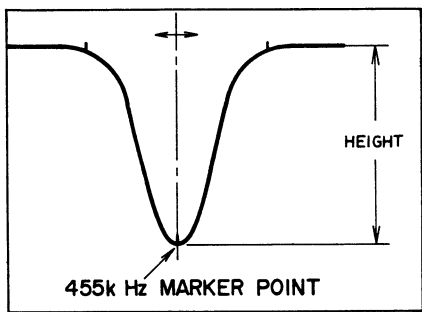

Fig. 13
NOTE: A Noise Element should not enter the single peaked curve shown in Fig. 13.
- 5) Adjust the core of FM-AM IF & MPX P.C. Board IFT T6(BLK) (Refer to Fig. 5) so that the 455 kHz marker point of the single peaked curve displays maximum amplitude as shown in Fig. 13.
- 6) Adjust the cores of FM-AM IF & MPX P.C. Board IFT T5(WHT), T4(YLW) (refer to Fig. 5) so that the left and right rise up characteristics of the single peaked curve shown in Fig. 13 are identical from the center (indicated by the dotted line in the figure).